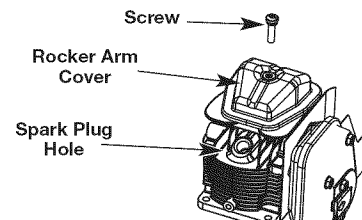

Fig. 28
- Clean dirt from around the rocker arm cover. Remove the screw holding the rocker arm cover with a large flat blade screwdriver or Torx T-25 bit (Fig. 28). Remove the rocker arm cover and gasket.